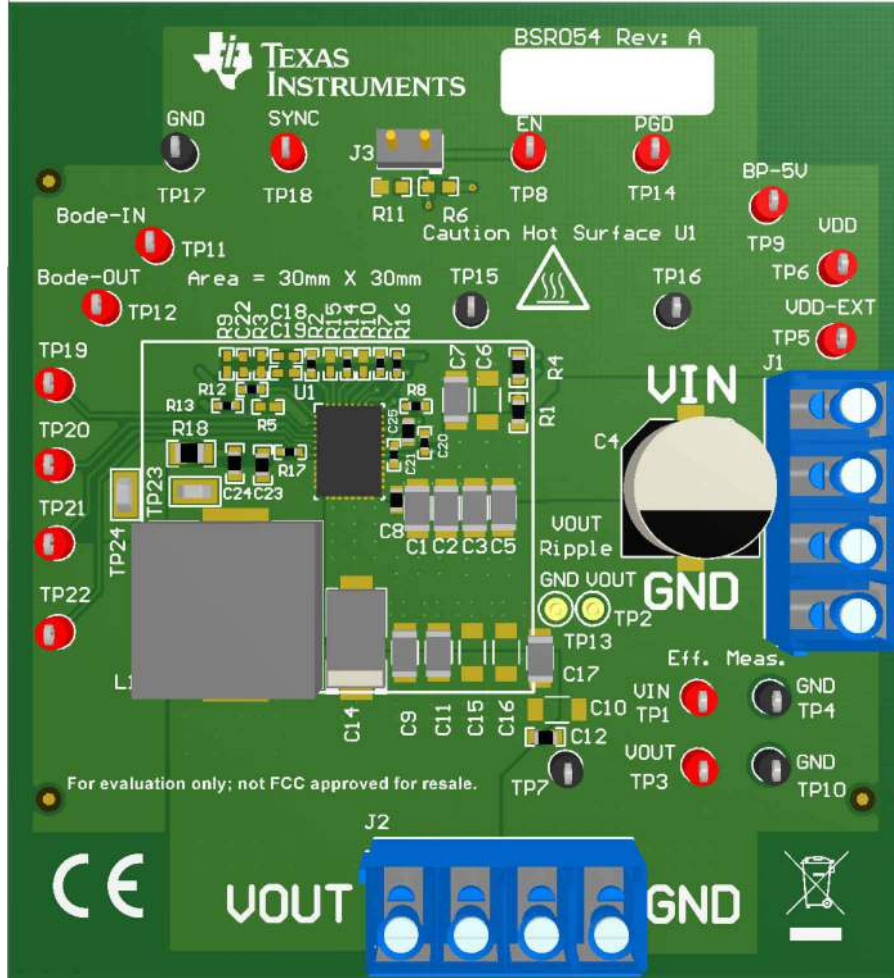

Figure 6-1. BSR054EVM Overview
Multimeters: It is recommended to use two separate multimeters Figure 6-1. One meter is used to measure V_{IN} and one to measure V_{OUT} .
Output Load: A variable electronic load is recommended for testing Figure 6-1. It must be capable of 40 A at voltages as low as 0.6 V.
1. Connect VOUT to J2 and VOUT_GND to J2 Figure 6-1.
4. Connect VIN to J1 and VIN_GND to J1 Figure 6-1.